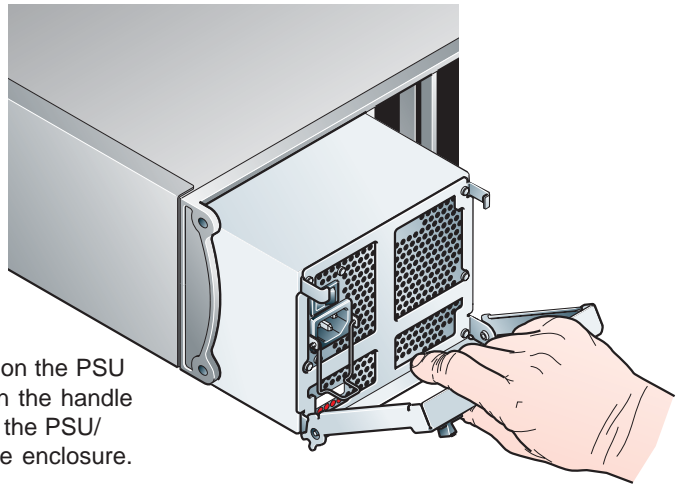

Figure 2b Fitting/Removing a PSU Module
4. Cam the module home by manually closing the PSU handle (see Figure 2b). A click should be heard as the handle latches engage.